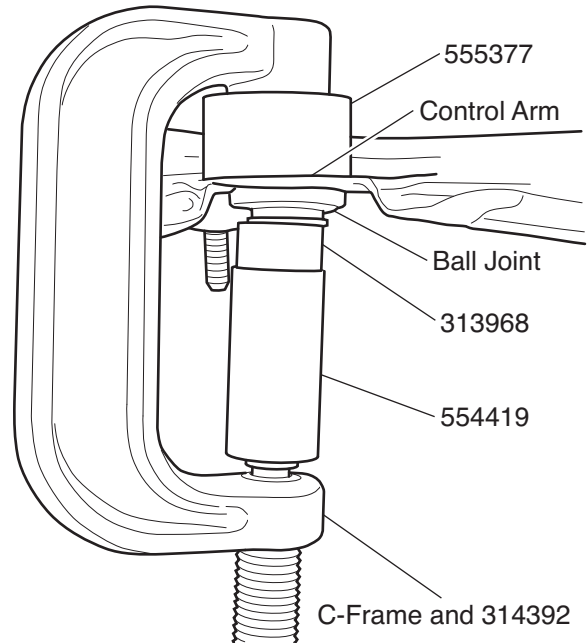

Figure 1. Ball Joint Removal
4. Position the C-Frame and 314392 as shown in Figure 1.